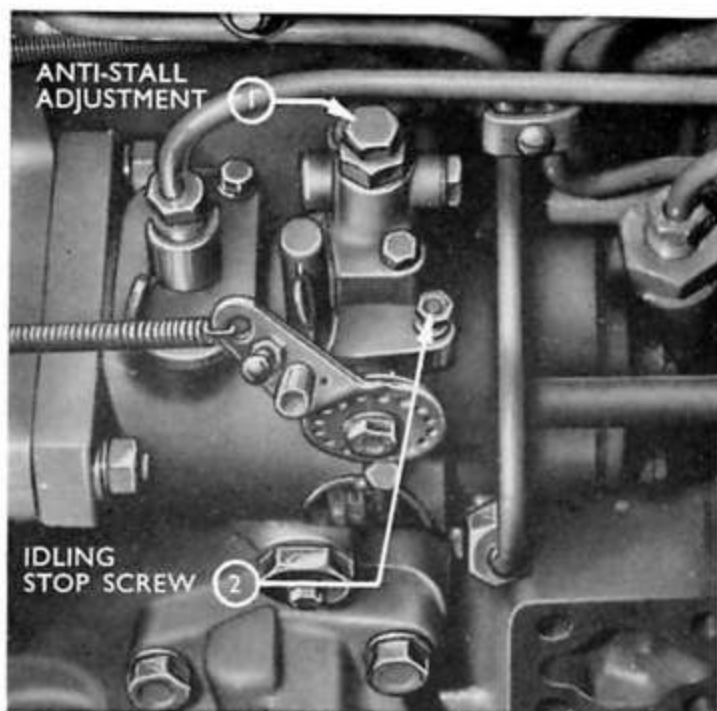

Fig. 49
3. Start the engine and, when running at the normal operating temperature adjust the idling speed to 625 rev./min. with the idling stop screw (see Fig. 49).
3. Turn the engine until the scribed line "A" is in alignment with the squared end of the timing circlip (see Fig. 49).